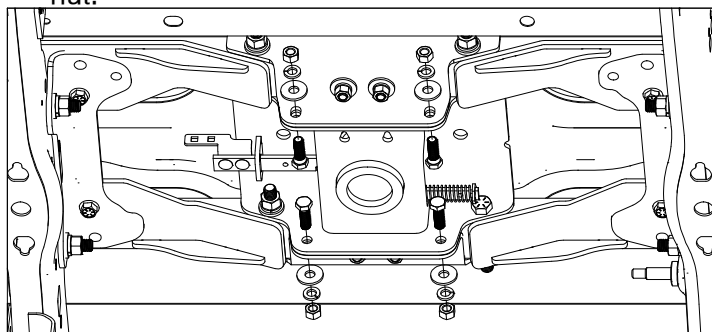

Figure D6: View looking up under the truck bed.
- 6. Install center section bottom cap screws.** Place four 1/2" x 1-1/2" cap screws into the four holes in the bottom of the center through the two cross member braces, as shown in Figure D6. Loosely secure the cap screws with a 1/2" flat washer, lock washer and nut.